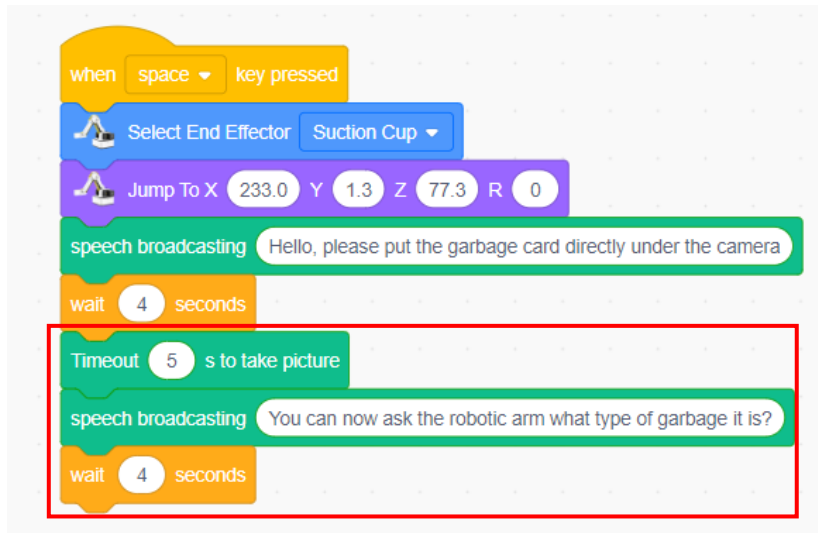

Figure 3.16 Voice prompt
Step 4: Select "speech broadcasting (hello)" to realize the voice prompt "You can now ask the robotic arm what type of garbage it is". About 4 seconds are reserved for the voice playback. Figure 3.16 shows the voice prompt.